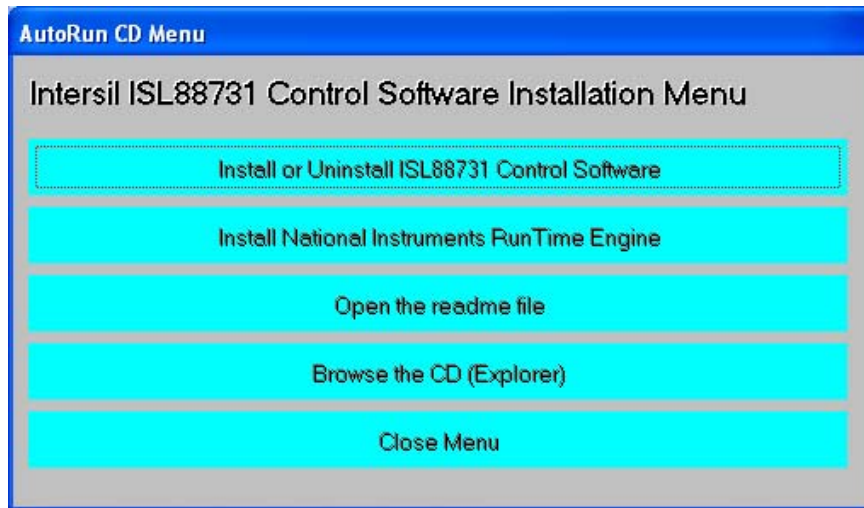

FIGURE 2. ISL88731(C)EVAL2Z CONTROL SOFTWARE INSTALLATION MENU
Both the ISL88731(C) control program and the National Instruments run time engine are installed from the “ISL88731 Installer” folder. Navigate to the folder and double click the “AutoRun.exe” file. You should see the window as shown in Figure 2.
Follow the instructions to install the Runtime Engine. If it does not run automatically, click “Install National Instruments Runtime Engine” on the ISL88731(C)EVAL2Z Control Software Installation Menu (see Figure 2). After installation, click on the Close Menu button.